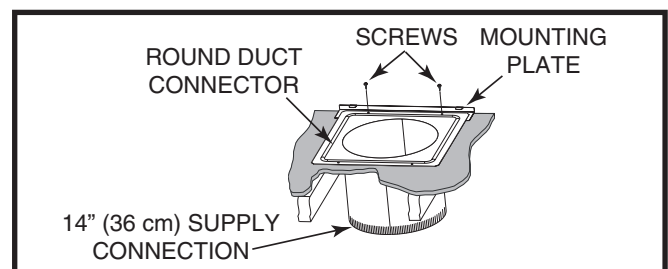

Figure 12. Round Duct Connector Installed
3. Install the mounting plate under the back side of the duct connector. See Figure 12 (page 9). NOTE: Align the screw holes in both components.